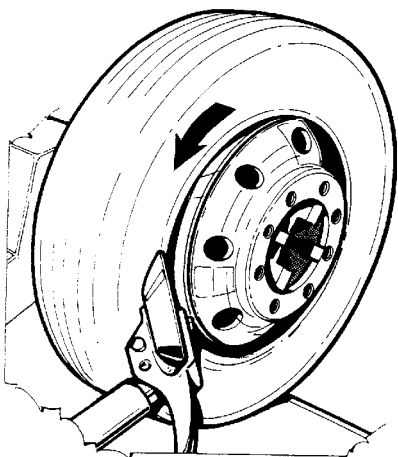
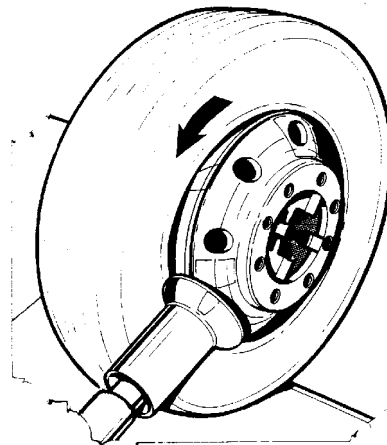

Fig.19
Fig.20
2. Position the bead breaker disc or tubeless roller (option) as shown in Fig.19, Fig.20.